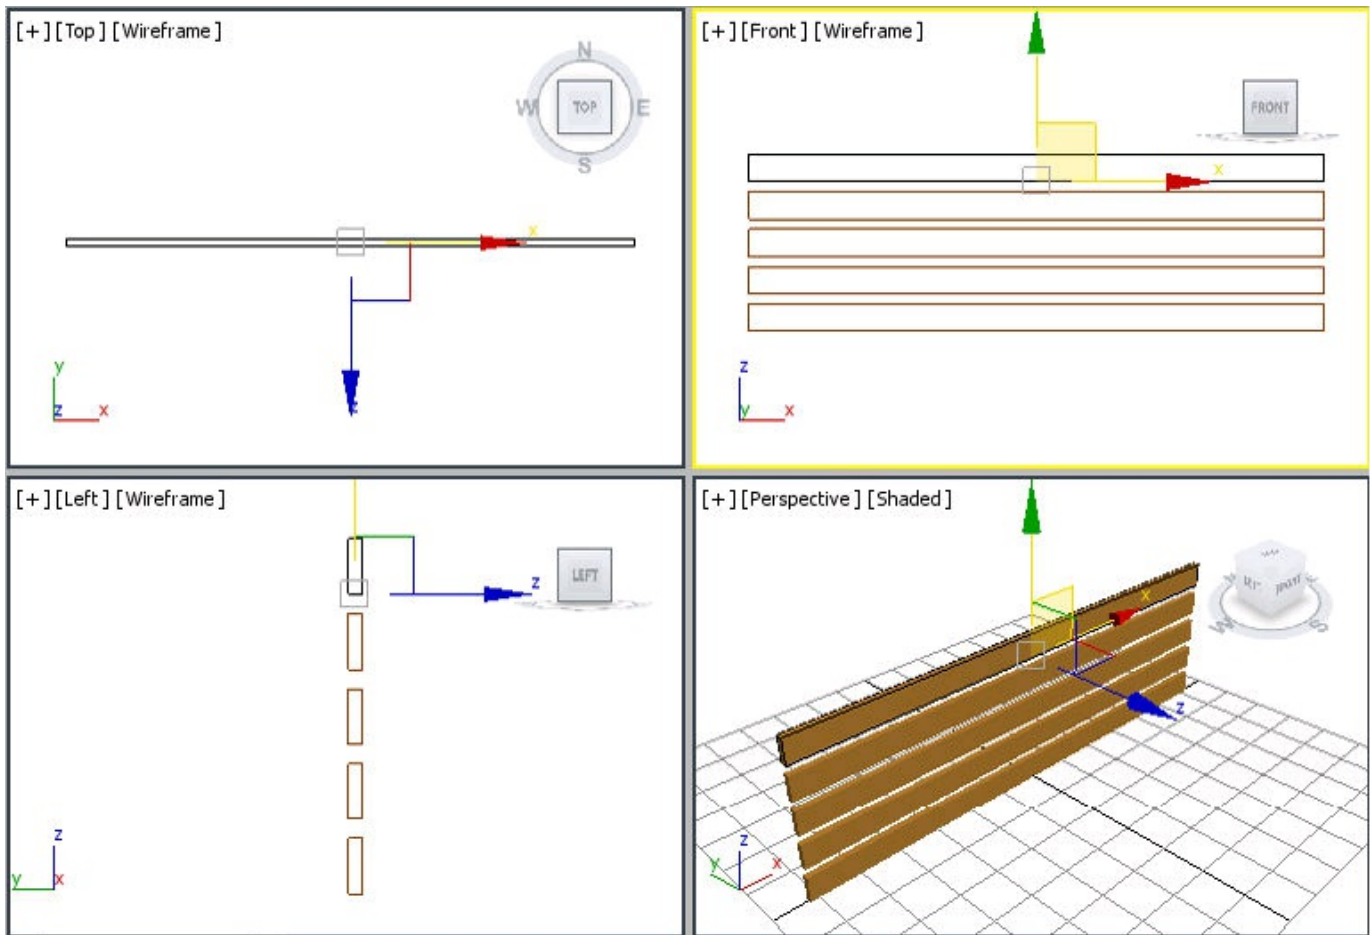

Figure 2-68 Horizontal back supports displayed in viewports
8. Choose the **Zoom Extents All** tool from the viewport navigation controls; the horizontal back supports are displayed in the viewports, as shown in Figure 2-68.